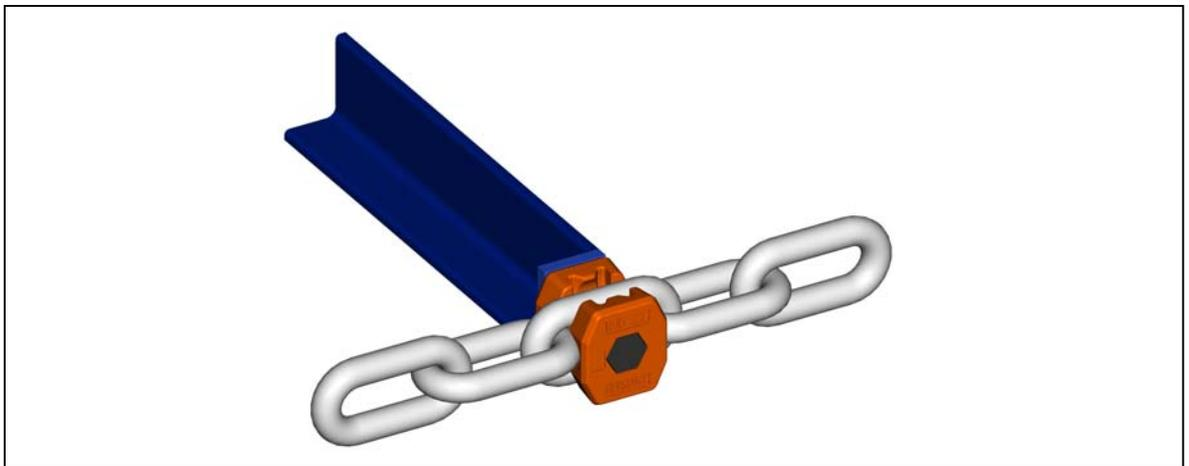

Fig. 2
2. Bolt the flange attachment halves and the intermediate piece to the chain link and scraper or transverse bar as shown in figures 2 and 3.